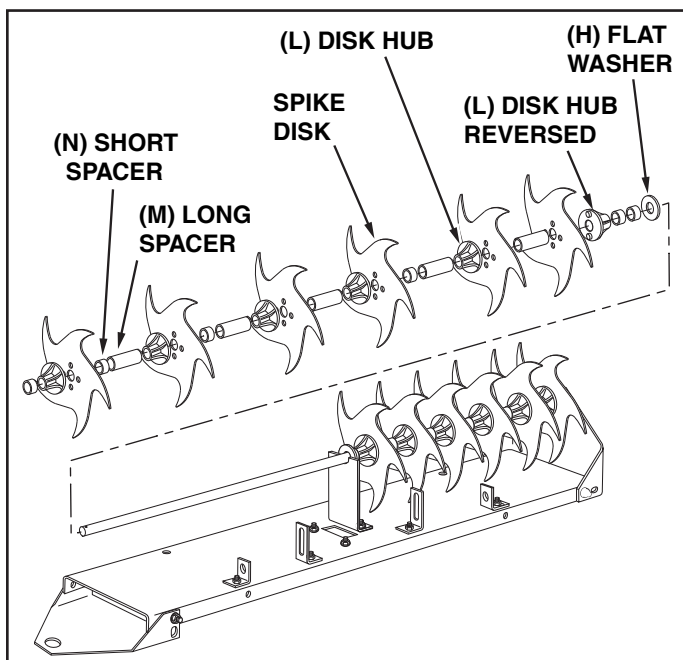

FIGURE 5 **REAR VIEW**
8. Assemble the following parts in sequence onto the long end of the axle (as shown in figure 5):
- a. A flat washer (H) and two short spacers (N).
- b. A disk hub (L reversed), spike disk and long spacer (M).
- c. A spike disk, disk hub (L), long spacer (M) and short spacer (N).
- d. A spike disk, disk hub (L) and long spacer (M).
- e. A spike disk, disk hub (L), long spacer (M) and short spacer (N).
- f. A spike disk, disk hub (L), long spacer (M) and short spacer (N).
- g. A spike disk, disk hub (L) and short spacer (N).